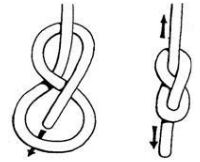

Fig. 7
- Make sure a ‘figure 8’ stopper knot is tied in the free end of the 1/2” diameter rope (Fig. 7).